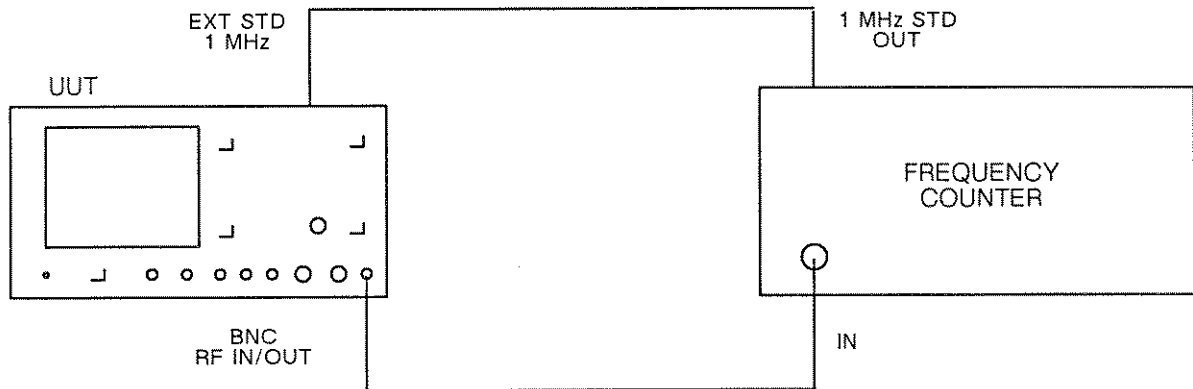

Fig. 5-20 Test equipment connections for RF generator frequency accuracy
- (1) Connect the equipment as shown in Fig. 5-20.